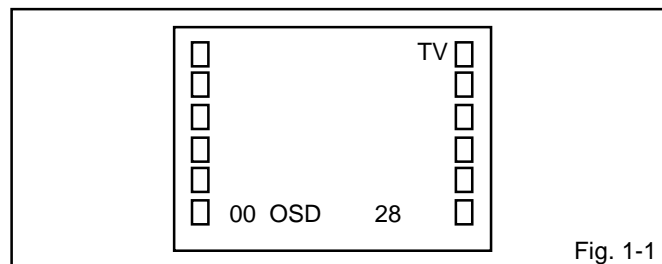

Fig. 1-1
1. In the condition of NO indication on the screen. Press the VOL. DOWN button on the set and the Channel button (9) on the remote control for more than 2 seconds to appear the adjustment mode on the screen as shown in Fig. 1-1.
3. Activate the adjustment mode display of Fig. 1-1 and press the channel button (01) on the remote control to select "CUT OFF".
4. Activate the adjustment mode display of Fig. 1-1 and press the channel button (10) on the remote control to select "R. BIAS".
3. Activate the adjustment mode display of Fig. 1-1 and press the channel button (05) on the remote control to select "H. PHAS".
3. Activate the adjustment mode display of Fig. 1-1 and press the channel button (07) on the remote control to select "V. SFT".
3. Activate the adjustment mode display of **Fig. 1-1** and press the channel button **(06)** on the remote control to select "V. SIZE".
3. Activate the adjustment mode display of **Fig. 1-1** and press the channel button **(13)** on the remote control to select "BRI.CENT".
3. Activate the adjustment mode display of **Fig. 1-1** and press the channel button **(22)** on the remote control to select "TINT".
6. Activate the adjustment mode display of **Fig. 1-1** and press the channel button **(19)** on the remote control to select "COL.CENT".
1. Activate the adjustment mode display of **Fig. 1-1** and press the channel button **(17)** on the remote control to select "CONT. MAX".
1. Activate the adjustment mode display of **Fig. 1-1**.